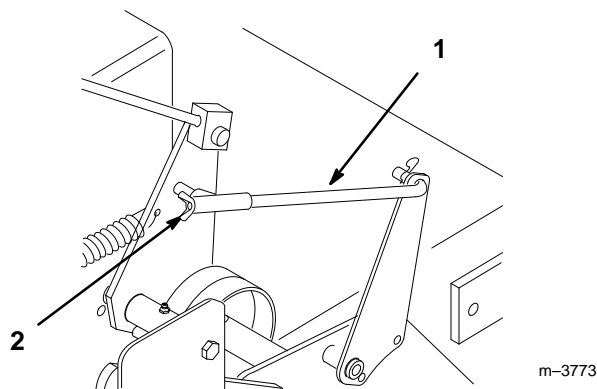

Figure 40
3. To adjust brake set the parking brake latch, and rotate the wing nuts on the brake rods (Fig. 40). Clockwise to tighten the brake and counterclockwise to loosen the brake.